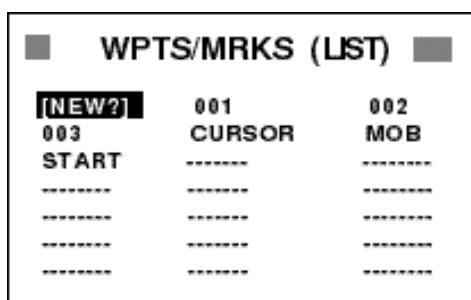

Figure 4-11 Waypoints/marks (list)
4. Select a waypoint and press the [ENT] key. Your screen should look something like the one in Figure 4-11.